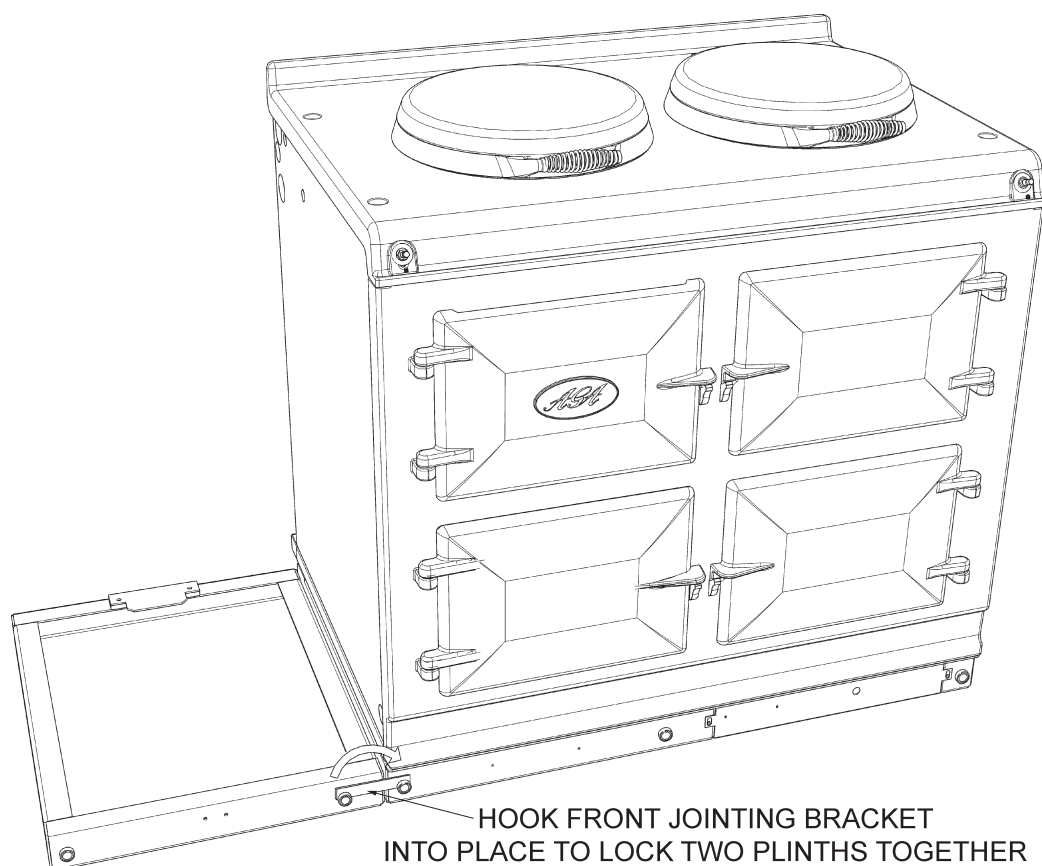

Fig. 16
5. Front jointing bracket can now be hooked into place over the two pot magnets. This will latch the two plinths together. (See Fig. 16)